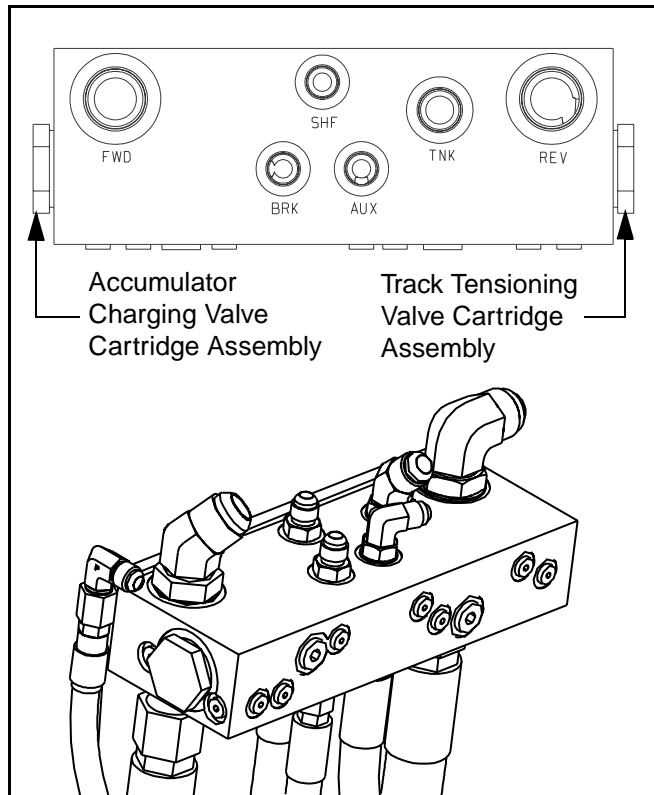

Figure 5 - 28 Track Take-up Valve
- 13) If you cannot feel it pulse, remove the accumulator charging cartridge assembly (Figure 5 - 28), inspect, clean, and re-install in valve body.